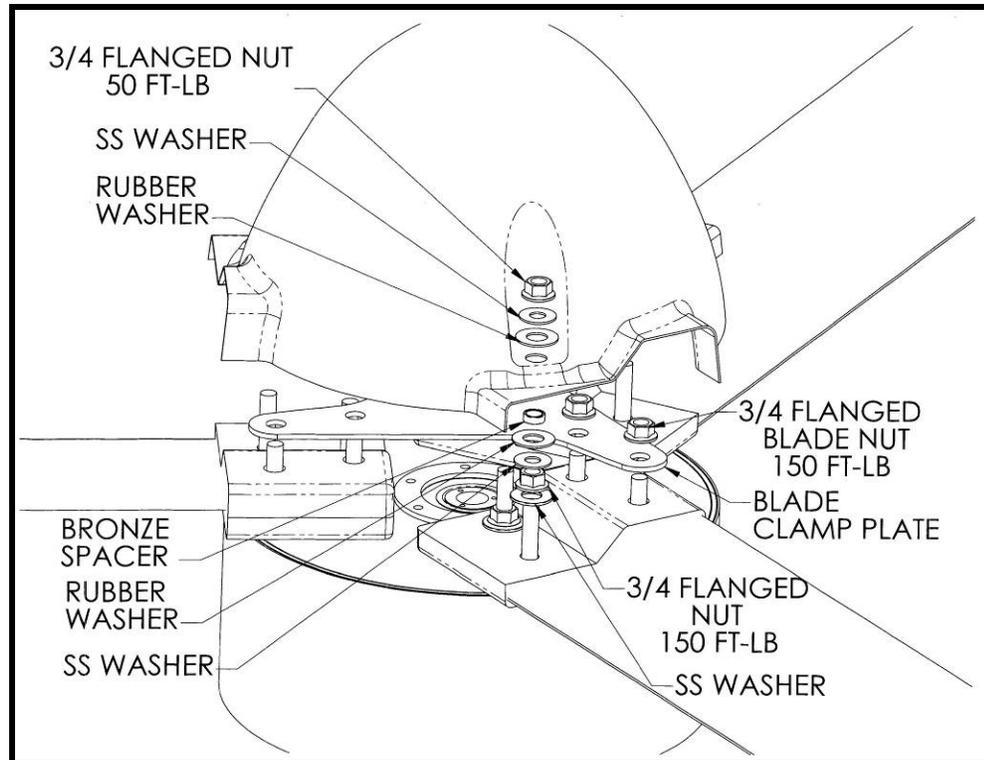

Figure 17: EXCEL Blade, Clamp Plate and Spinner Attachment
20. **Figure 17**, with the hardware provided in the Blade and Spinner Hardware Kit (HK0003).
- d. Figure 17. Secure the clamp plate on the blade roots using six Spiralock nuts, **torqued to 150 ft-lb** (washers are not required).
21. **Figure 17**, making sure that all hardware is ordered and positioned properly. The recommended procedure is as follows:
- b. Figure 17), fastened together with a small amount of silicone caulk. **Be sure the bronze spacer is *inside* the rubber washer and against the stainless washer.** Be sure the inner diameters of the stainless washer and spacer are properly aligned. Do this ahead of time for three separate assemblies, and use these assemblies when you are ready to attach the spinner.